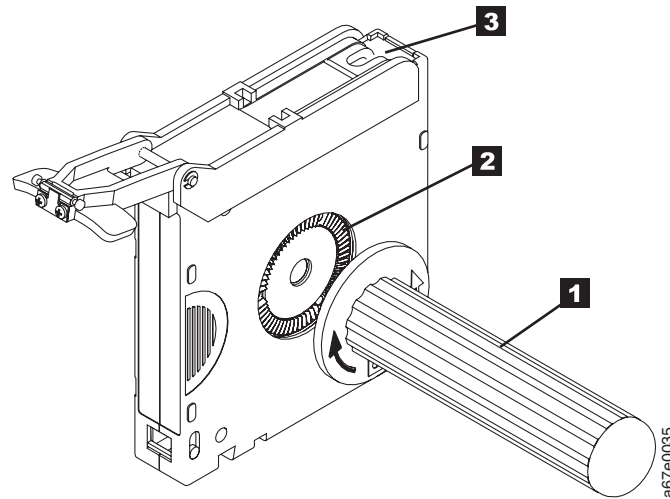

Figure 5-13. Winding the tape out of the cartridge
2. To find the end of the tape inside the cartridge, attach the cartridge manual rewind tool (**1** in Figure 5-13) to the cartridge's hub **2** by fitting the tool's teeth between the teeth of the hub. Turn the tool clockwise until you see the end of the tape inside the cartridge. Then, slowly turn the rewind tool counterclockwise to bring the tape edge toward the cartridge door **3**.